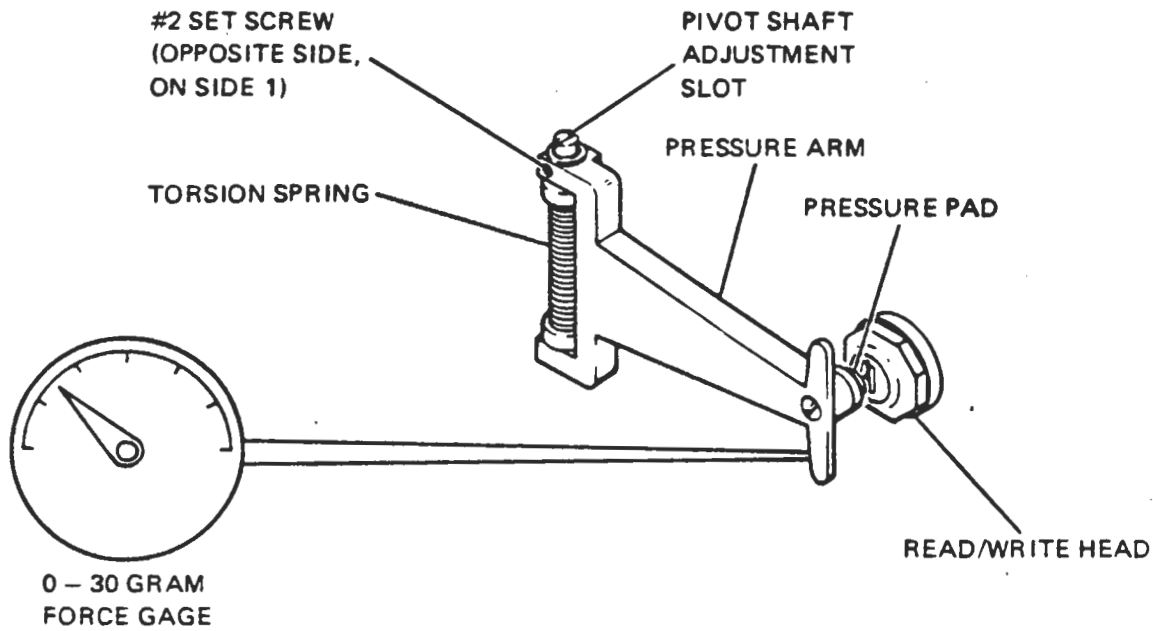

Figure 6-15. Head Pressure Arm Check
- Using a cantilever type force gage measure the arm spring force at the head. (Figure 6-15.)